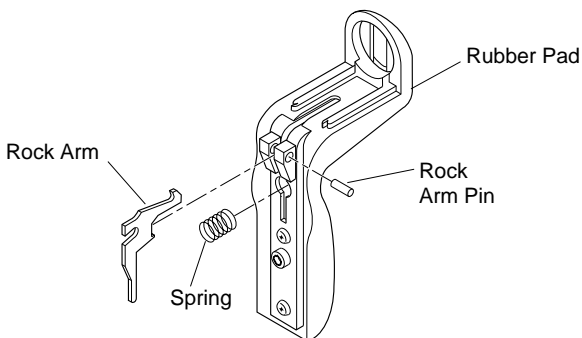

**Figure 5 - Removing Rubber Pad**
1. Slip top of rubber pad over plug at rear of tool body (see Figure 5, page 19).